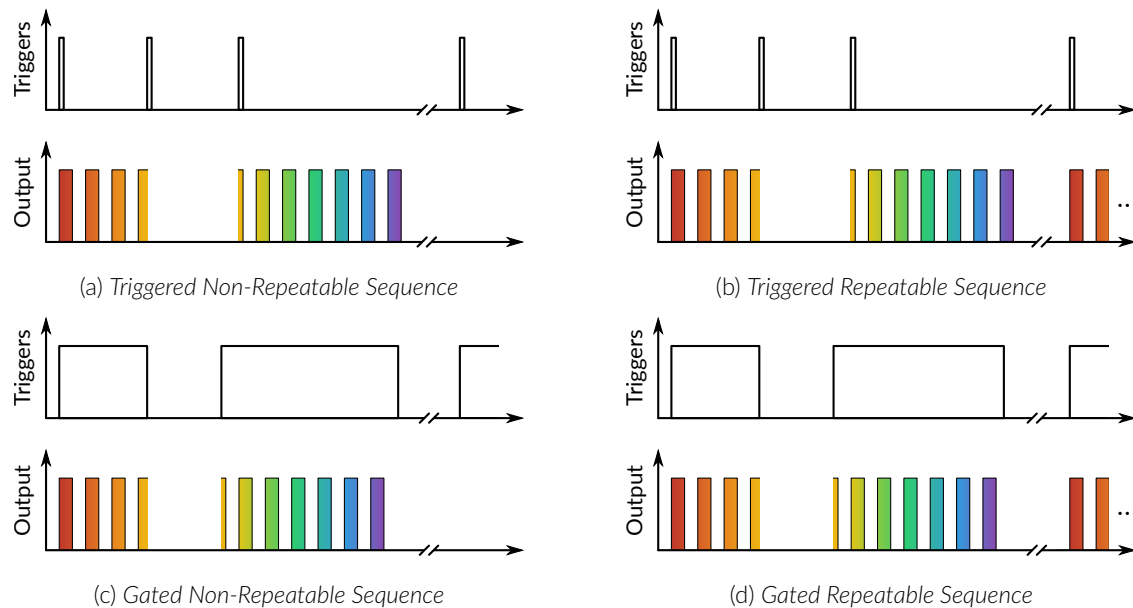

Figure 9.5: Pause Sequence Mode.
- **Pause:** This mode activates the channel sequence when a rising edge greater than 3.3 V is detected on the BNC input (Fig. 9.5). Following input pulses (when *Triggered*, Fig. 9.5a) or falling edge (when *Gated*, Fig. 9.5c) will pause the sequence and the sequence will continue when the next rising edge is received. When the **Repeatable sequence** checkbox is checked, the sequence will restart with the arrival of the first input pulse after the sequence has finished (Figs. 9.5b and 9.5d).